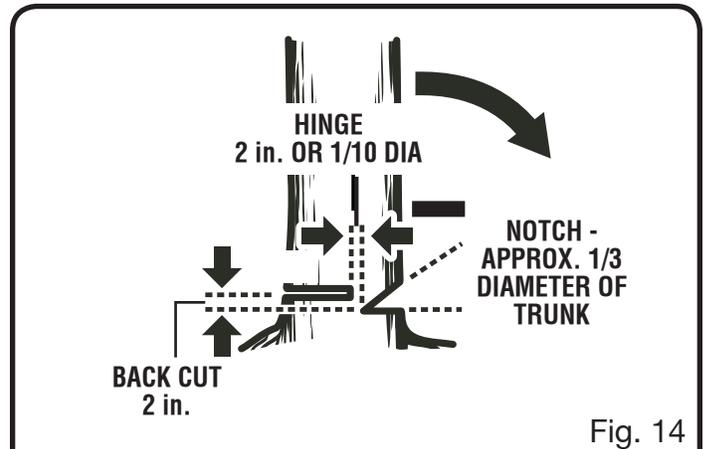

Fig. 14
- **Notched Undercut.** Cut a notch about 1/3 the diameter of the tree, perpendicular to the direction of fall. Make the cuts of the notch so they intersect at a right angle to the line of fall. This notch should be cleaned out to leave a straight line. To keep the weight of the wood off the saw, always make the lower cut of the notch before the upper cut. See Figure 14.
- **Felling Backcut.** The backcut is always made level and horizontal, and at a minimum of 2 in. above the horizontal cut of the notch. See Figures 14 - 15.
- Never cut through to the notch. Always leave a band of wood between the notch and backcut (approximately 2 in. or 1/10 the diameter of the tree). This is called “hinge” or “hingewood.” It controls the fall of the tree and prevents slipping or twisting or shoot-back of the tree off the stump. See Figures 14 - 15.